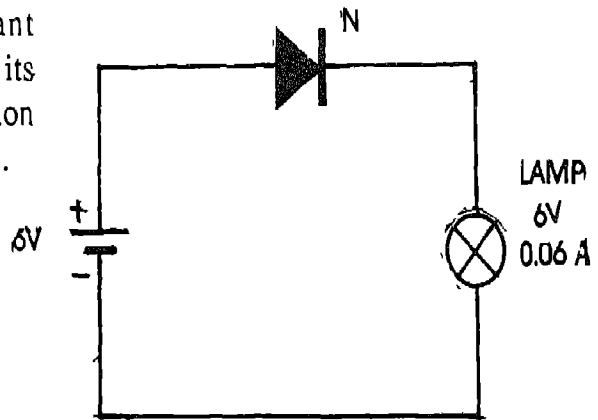

Fig 1.3
The diode is said to be forward biased when the anode is made positive with respect to the cathode. The diode produces large current when forward biased. (Fig. 1.3)
1. Make the connections as shown in Fig. 1.3.